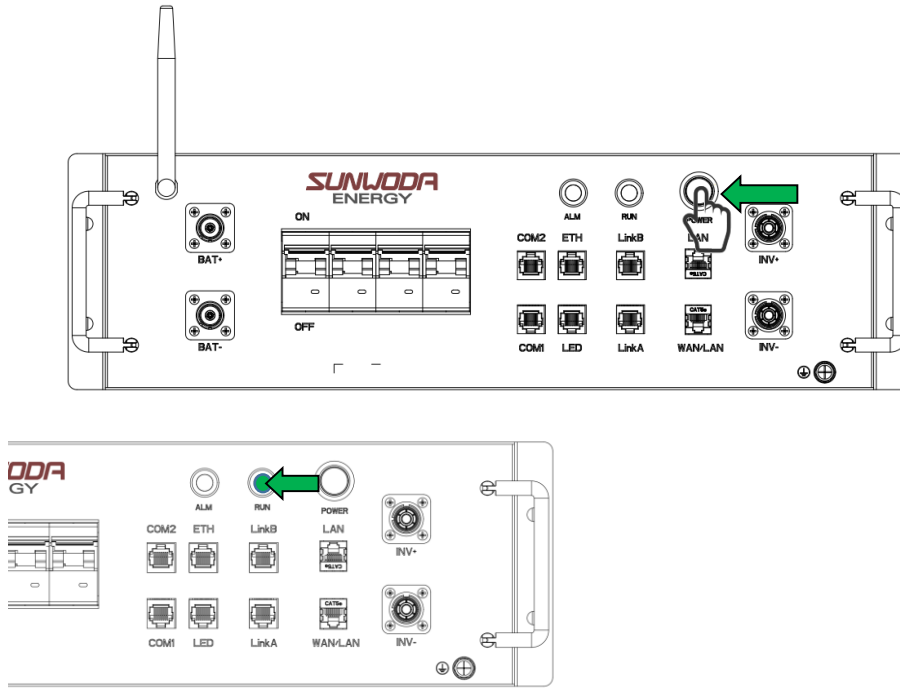

Figure. 4.2
Step 2: Press and hold the POWER button on the front side of the control box for 3S, the green running indicator will flash steadily at a frequency of 1 second 1 time to turn the battery system on(Fig.4.2).